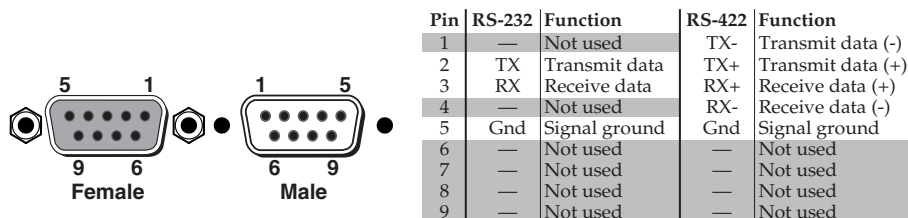

Figure 2-6 — RS-232/422 connector
- ⑥ **Remote/RS-232/RS-422 port** — Connect a host device, such as a computer or touch panel control, to the CrossPoint Plus via this 9-pin D connector for serial RS-232/RS-422 control (figure 2-6).